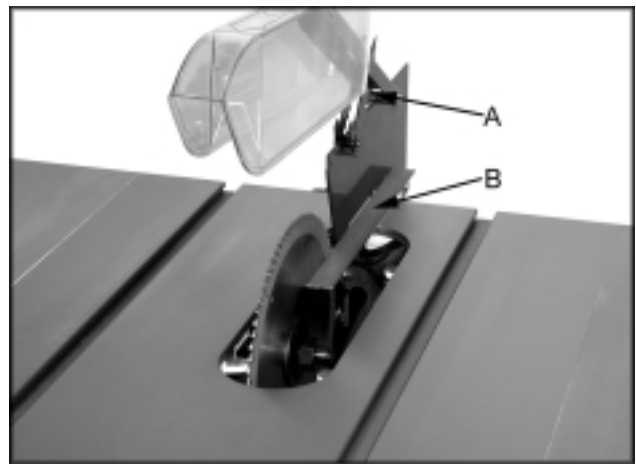

Fig. 8
1. Raise blade guard away from table and hold anti-kickback pawls (A, Fig. 8) away from table surface with the cut-out in the guard arm.
2. Using an accurate straight edge (B, Fig. 8), align the splitter with the saw blade. Be sure the straight edge rests against body of saw blade and not saw teeth.